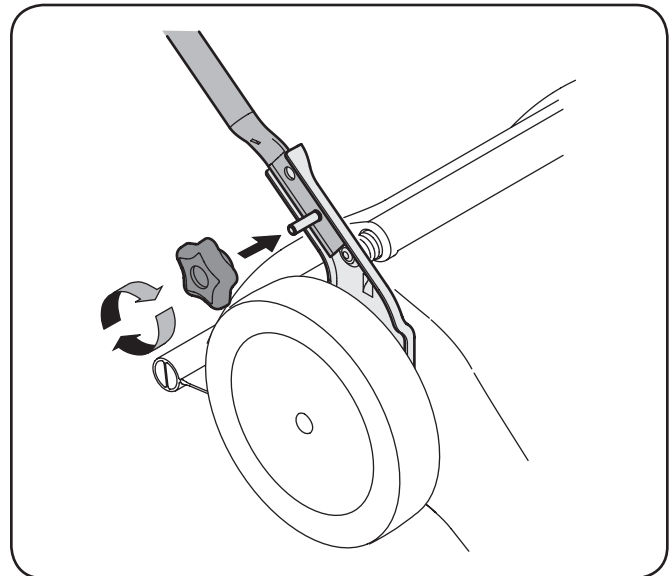

Figure 3-2
- Tighten star knobs securing lower handle to handle brackets. See Fig. 3-2. Make certain the lower handle is seated securely into the handle mounting brackets.